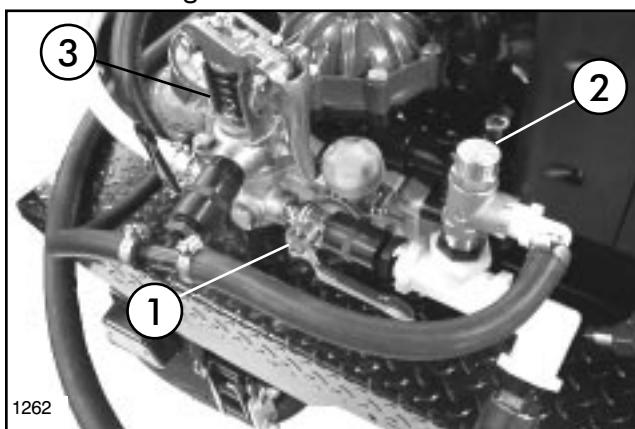
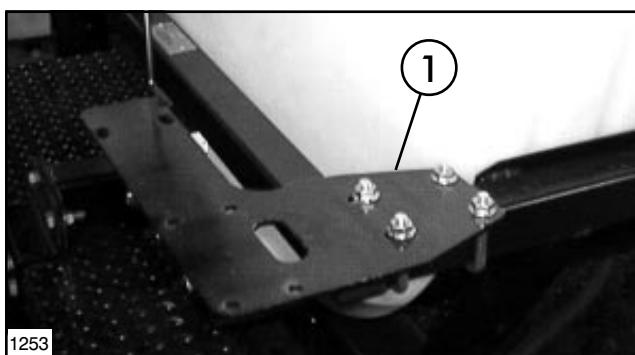

FIG. 7
FIG. 8
- Install (1) 1/2" Barbed Tee into the front port of the Pressure Relief/Adjustment Valve using (1) 1/2" Nipple and Coupling. See FIG. 7.
4. Loosen the (2) hex nuts securing the Pressure Relief/Adjustment Valve to the Diaphragm Pump. Apply thread sealer and install the 1/2" Ball Valve into the R.H. port of the Pressure Relief/Adjustment Valve and retighten hex nuts. See FIG. 7.
5. Apply thread sealer and attach the 3/4" tee to the 1/2" ball valve using (1) 1/2" coupling and (1) 1/2" x 3/4" reducing nipple.
6. Apply thread sealer and install the Relief Valve in the top port in tee using (1) 3/4" x 1/2" reducing bushing as shown in FIG. 7.
7. Apply thread sealer and install (1) 1/2" hose barb in open port in Relief Valve. Connect Relief Valve and barbed tee using (1) 1/2" x 21" hose and (2) hose clamps.
9. Secure the Valve Plate to the rear bar of the Saddle Assembly using (2) U-Bolts and (4) 5/16" flange nuts. See FIG. 8.
13. Connect Ratchet Valve to tee at pump with (1) 1" x 36" Hose and (2) hose clamps. See FIG. 7 & 9
14. Secure the 1" x 44" Hose to hose barb in the rear of the Ratchet Valve using (1) hose clamp. Route toward rear of vehicle.
15. Attach handle to Ratchet Valve using (2) 5/16" x 3/4" cap screws and flange nuts.
17. Route Pull Rope along L.H. side of operator for ease of actuating Ratchet Valve. Provided are (2) Ring Guides, (2) R-Clamps, (1) Ring Terminal, (1) Pull Rope Handle, (2) 5/16" x 3/4" cap screws and flange nuts. Use as needed to route Pull Rope.